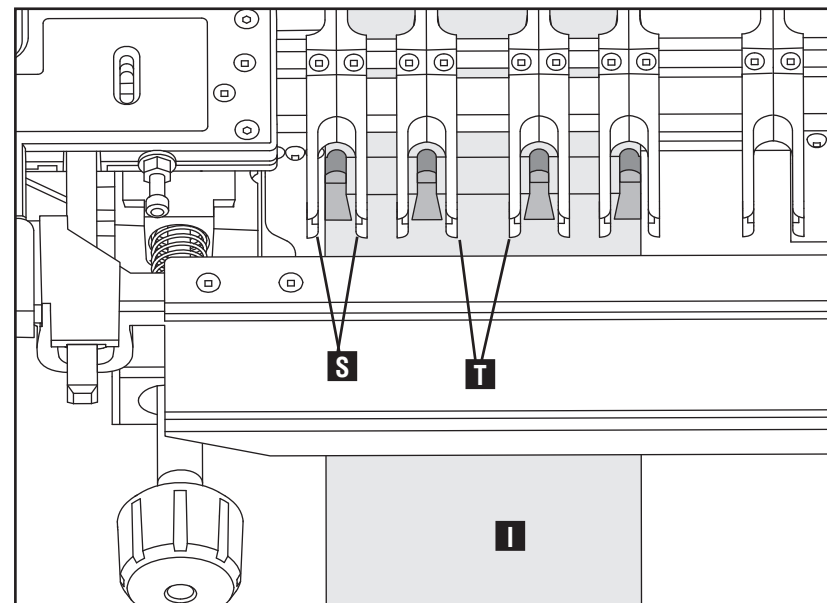

Fig. D10
15. Make the cut. Be sure to cut only between the rounded edges (S) Fig. D10, not between the square ones (T). Make small passes, moving from left to right within fingers.
16. Remove tailboard (I).